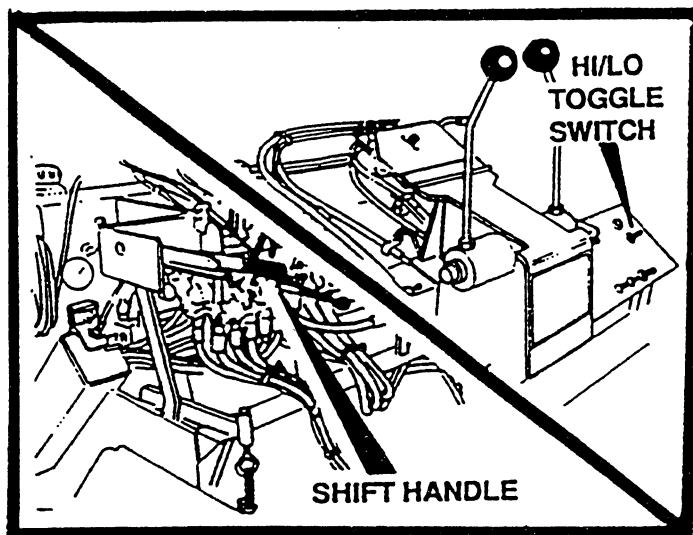

FIGURE 22
2. In figure 22 shows two methods of shifting the paver from HI to LOW gear. Item 17 High and Low gear, cable is used with the two speed transmission, push down to low gear, pull up to high gear. Item 15 High and Low, toggle is a toggle switch used with the Torque Hub, pull toggle switch down to low and push up to high gear. When the paver is equipped with torque hub, a high gear indicator light will be on steady, indicating that paver is in high gear. If this same indicator light is flashing, this means that the feeder chain will need adjusting.